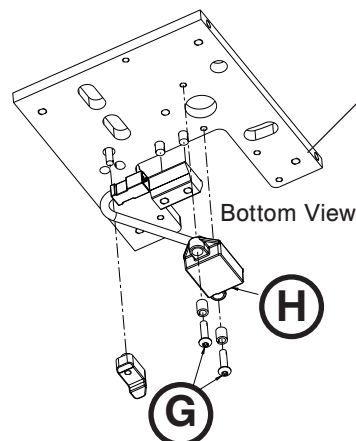

Figure 81
7. Using a 1/4" ratchet and a T25 Torx driver, remove the two button head cap screws (G) that secure the TPS assembly (H) (Figure 81).